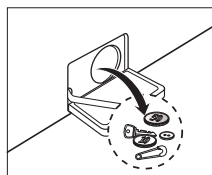

Fig. 13
- Remove foreign objects/fluff from inside and clean the interior. (Fig. 13)